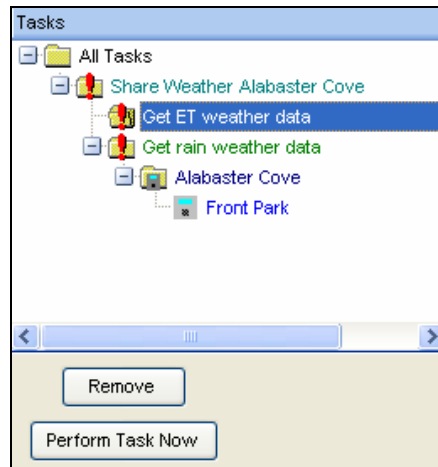

Figure 12.1.13
11. Now you want to do the same thing for “**Get ET weather data**”. Highlight the “**Get ET weather data**” folder under the “**Share weather**” folder in the **Tasks** window (Figure 12.1.13).